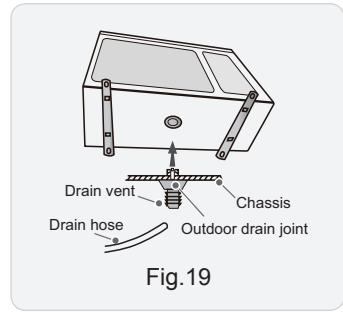

Fig.19
(1) Connect the outdoor drain joint into the hole on the chassis.
(2) Connect the drain hose into the drain vent. (As show in Fig.19)